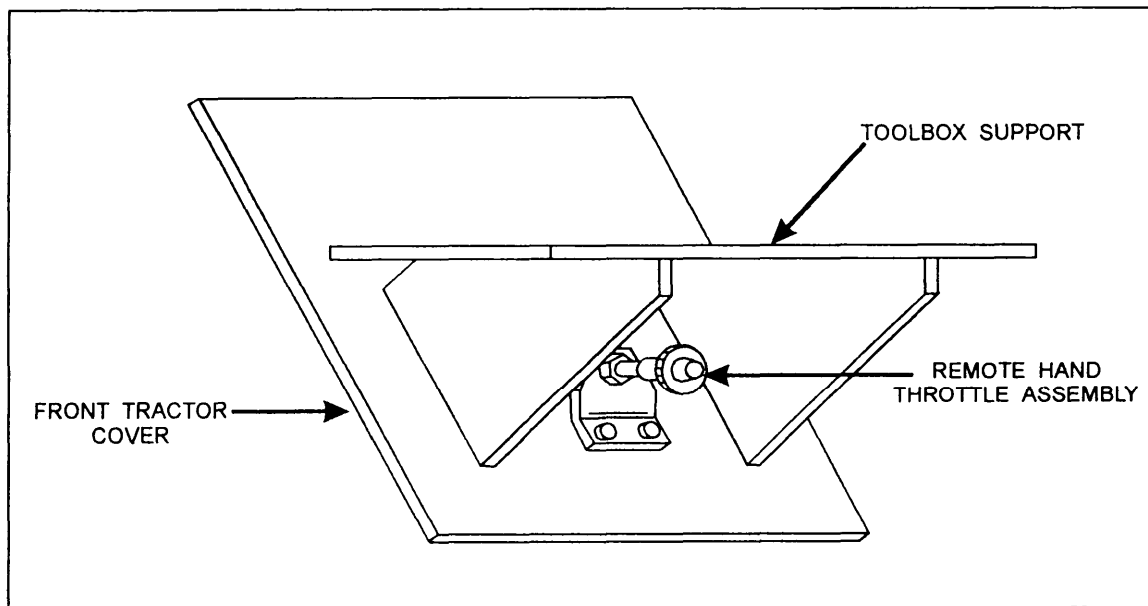

Figure 9-40.—Remote hand throttle assembly.
4. The loader is equipped with a remote hand throttle assembly (fig. 9-40) located on the front cover of the loader, which is behind the backhoe operator's seat. The hand throttle is preset to the backhoe specifications to deliver the proper amount of hydraulic oil flow for backhoe operations. The speed of the engine determines the volume of hydraulic oil delivered to the backhoe and the speed of the cylinder movements. Because of this, you should set the engine at a low speed until you are familiar with the control lever pattern.